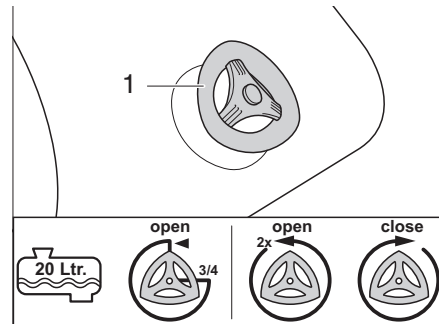

Fig. 337 Drain cock
- 1/2 full or less: Turn the drain cock (Fig. 337,1) 3/4 of a rotation anti-clockwise. The water drains off.
- 3/4 full and more: Turn the drain cock (Fig. 337,1) 2 rotations anti-clockwise. The water drains off.
- Close the drain cock (Fig. 337,1) clockwise.